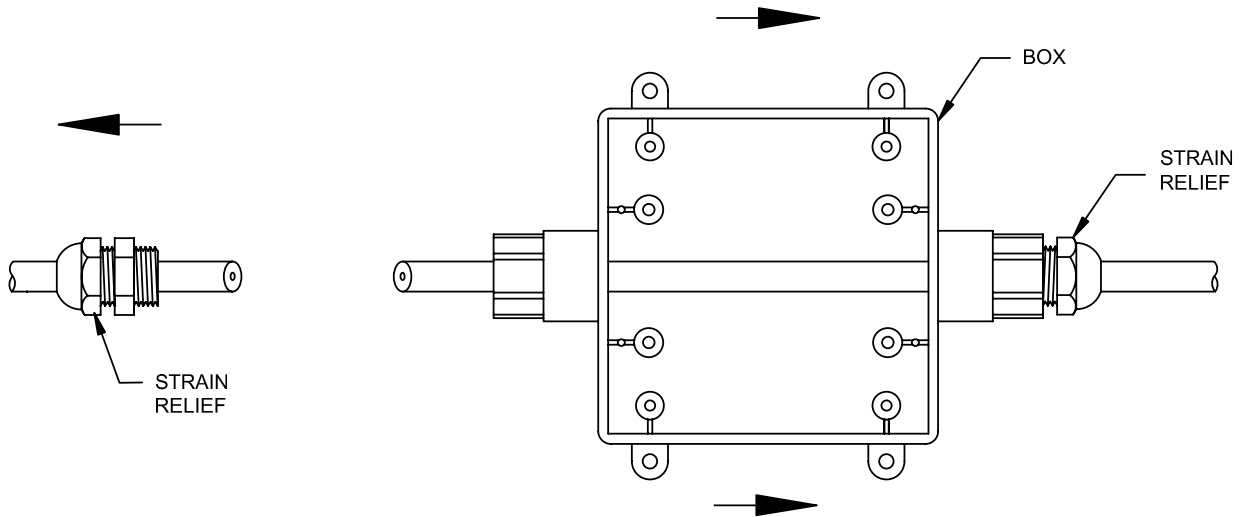

Figure 6.20 – MTI Strain Relief and Enclosure
- **Step 2:** Follow Figure 6.20, slide the enclosure with the strain relief over the end of one cable. Slide the other strain relief over the end of the other cable.